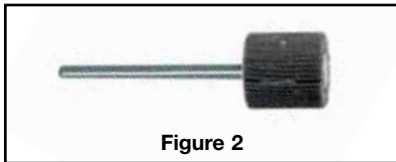

Figure 2
- b. Ridges must be removed. Use a 3/8" diameter flap wheel (**Figure 2**) chucked in a miniature die grinder to smooth the transition from the chamfer into the bore.